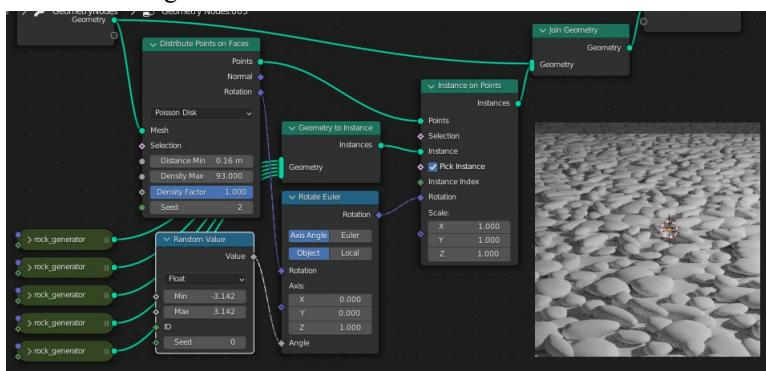

Figure 14.3 Scattered rocks on a plane.
15. To make the rocks lie flat on the surface connect the Rotation output of the distribute points on faces node to the Rotation input of the instances on points node. Then, to make the rocks rotate randomly around their Z axis insert a rotate node into the connection you just made, select **Add ▶ Utilities ▶ Rotate Euler** and change its method of rotation to **Axis Angle** with the Axis **0.0, 0.0, 1.0**. You now need to feed a random value into the Angle input of the rotate Euler node, use **Add ▶ Utilities ▶ Random Value**, setting the Min to **-pi** and the Max to **pi**. The node tree and resulting 3D view are shown in Figure 14.3